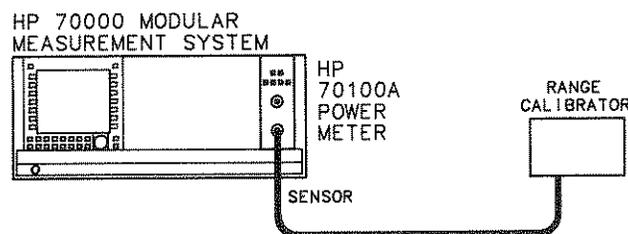

Figure 4-1. Zero Carryover Test Setup
1. Connect the equipment as shown in Figure 4-1.